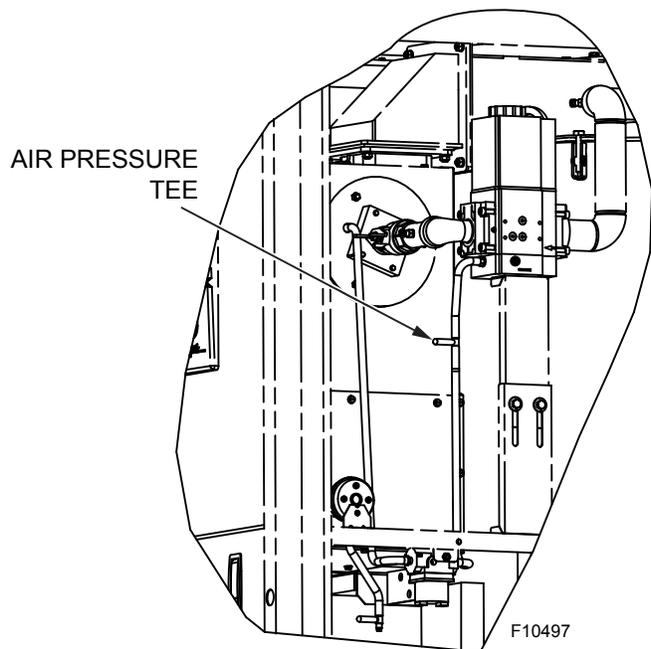

Figure 74. Air Pressure Tee
4. Attach (1) 12" scale manometer on the fan suction pressure hose. Pull black cap from the air pressure tee as shown in **Figure 74** and connect the manometer.